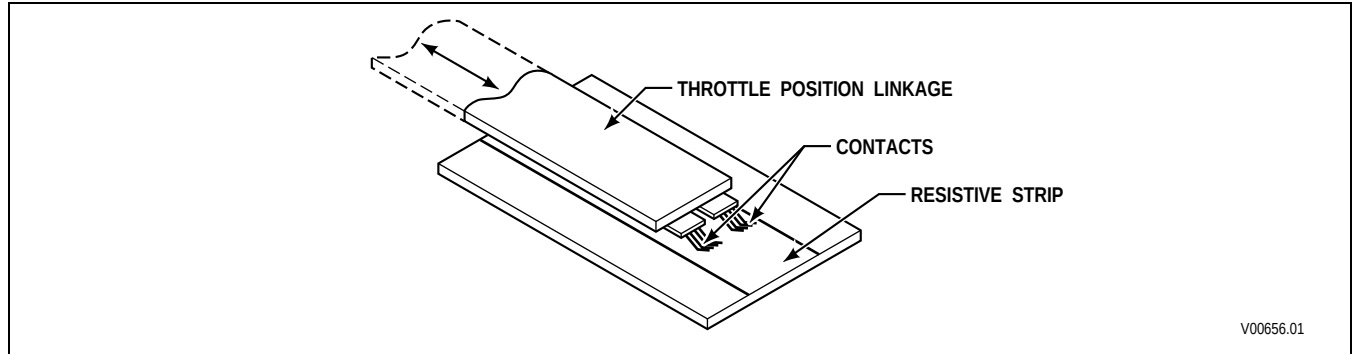

Figure F-1. Throttle Position to Voltage Conversion
1. To properly communicate throttle position to the Transmission Control Module (TCM), the throttle position sensor must convert its mechanical movement to an electrical form the TCM can understand. To accomplish this, contacts move across a resistive strip inside the sensor which translates position into voltage (refer to Figure F-1).